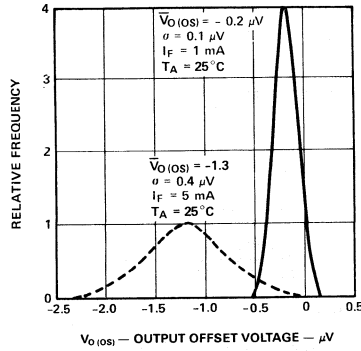

Figure 7. Output Offset Voltage Distribution.
3.  $V_{\alpha(OS)}$  is a function of  $I_{F(ON)}$ , and is defined between pins 8 and 5 with pin 5 as reference.  $V_{\alpha(OS)}$  must be measured in a stable ambient. See Figure 7 for variation of  $V_{\alpha(OS)}$  around the typical value.